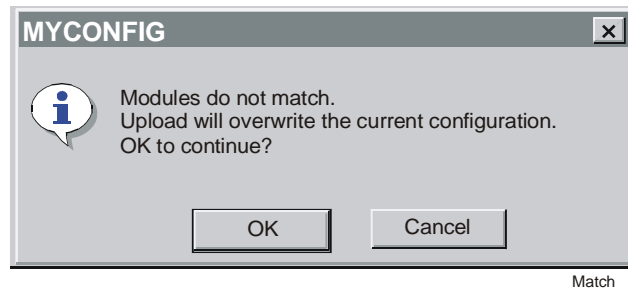

Figure 11-8: MYCONFIG Dialog Box
- Click OK if the upload is successful. Upload checks whether the configuration open in the GX Tool matches the configuration uploaded from the controller (unless you are uploading a calibration). Upload checks only for DX elements, and Upload XT/XTM checks against XT/XTM and their associated EXPs; Upload DX and XT/XTM checks both. If the check fails, the MYCONFIG dialog box appears (Figure 11-8).